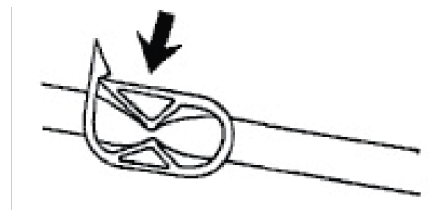

Figure 1-10: Close the clamp
2. Close the clamp by pressing the clamp together (Figure 1-10 on page 15).